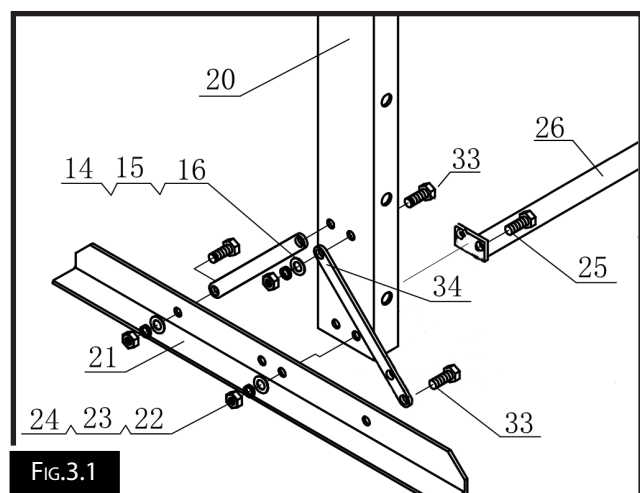

Fig.3.1
1. Attach one base section (21) to a main post (20) and lower cross member (26) using bolts M12 x 35mm (25), washers M12 (22), spring washers M12 (23) and nuts M12 (24), then attach the other post to the opposite side of the lower cross member, using the same fasteners as above. (Fig.3.1)
2. Attach the 4 x Support bars (34) to the base section (21) and the main posts (20) using bolts M10 x 25mm (33), washers M10 (14), spring washer M10 (15) and nuts M10(16). (Fig.3.1)